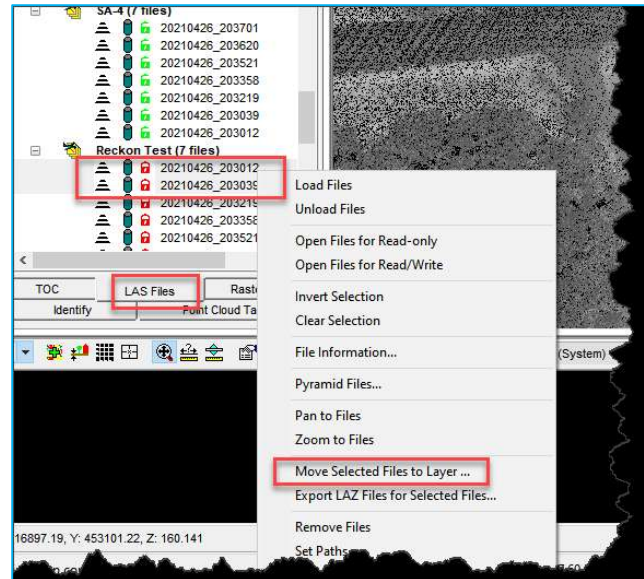

Figure 54 - Invoking the Move Selected File(s) to Layer Command
- For more selective processing you might select individual LAS file(s) in the LAS Files tab and use the right-click -> **Move Selected File(s) to Layer** command (Figure 54) to open the Move LAS Files to Layer options dialog (Figure 55). This command allows you to move one or more LAS files from one LAS Layer to another. You can also create a new destination LAS Layer with this command.